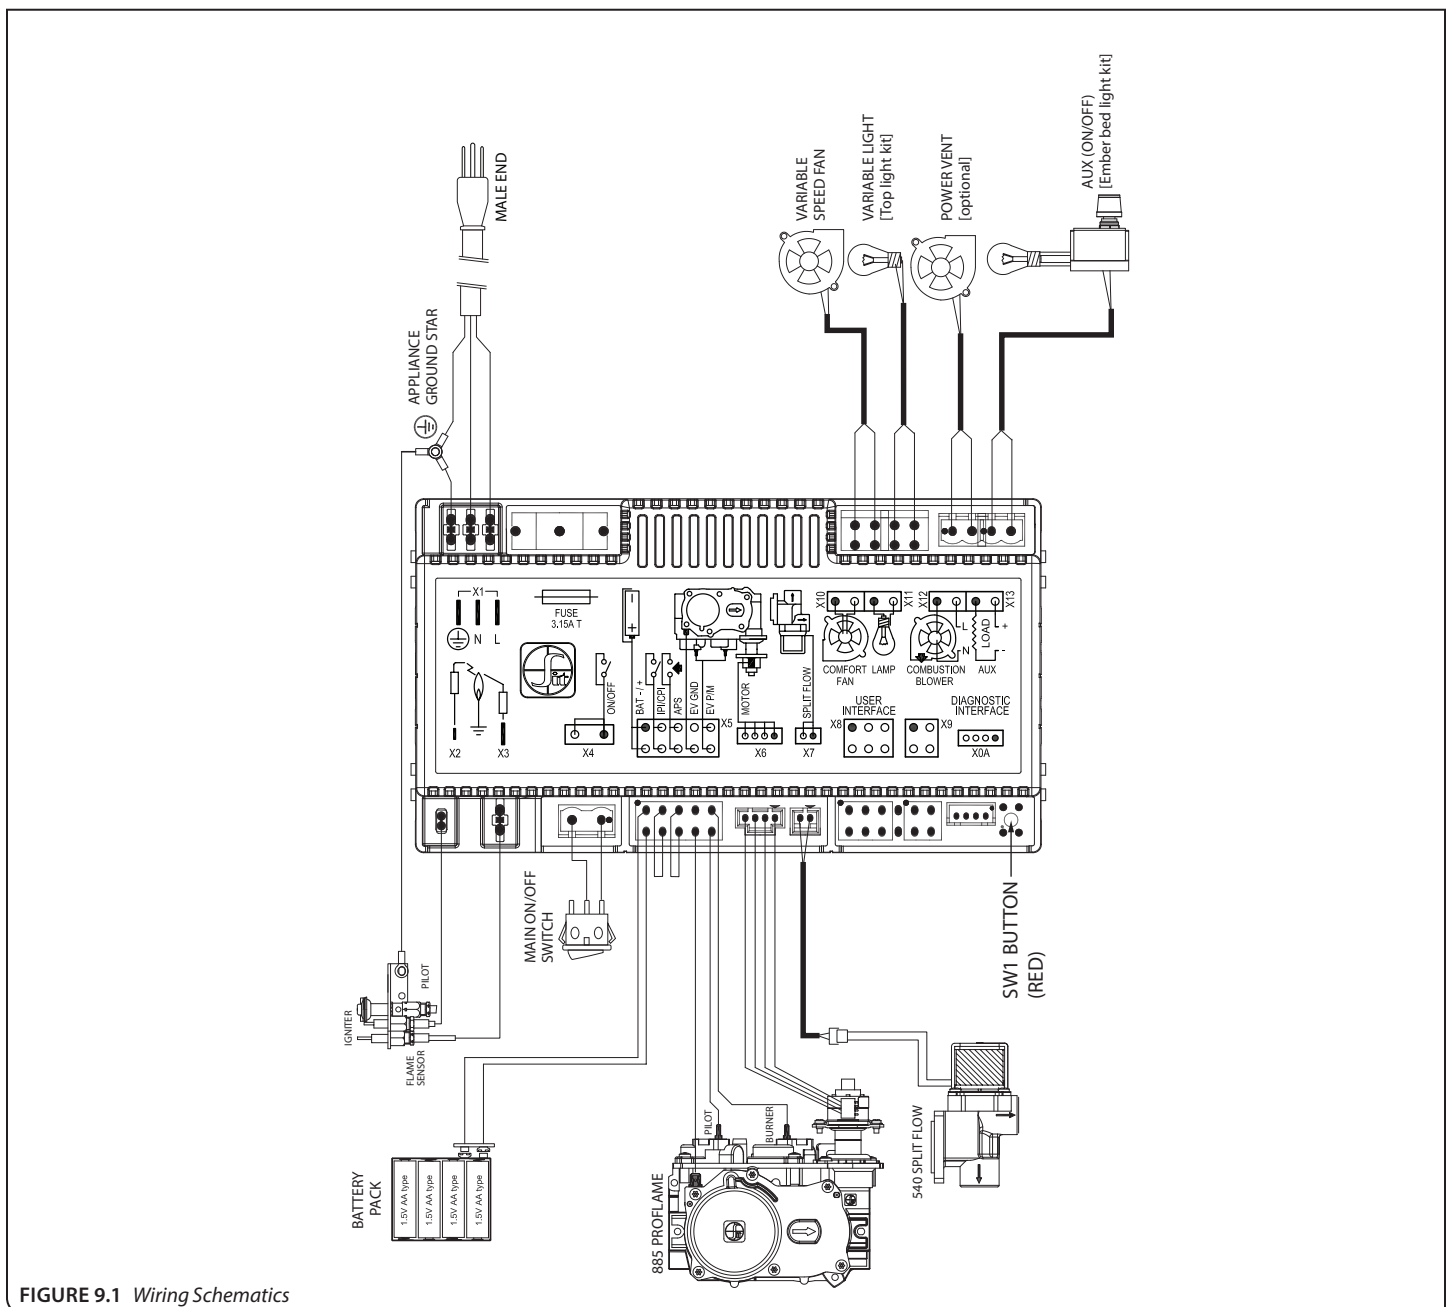

FIGURE 9.1 Wiring Schematics
- Wiring schematics for this appliance are shown in **FIGURE 9.1**.